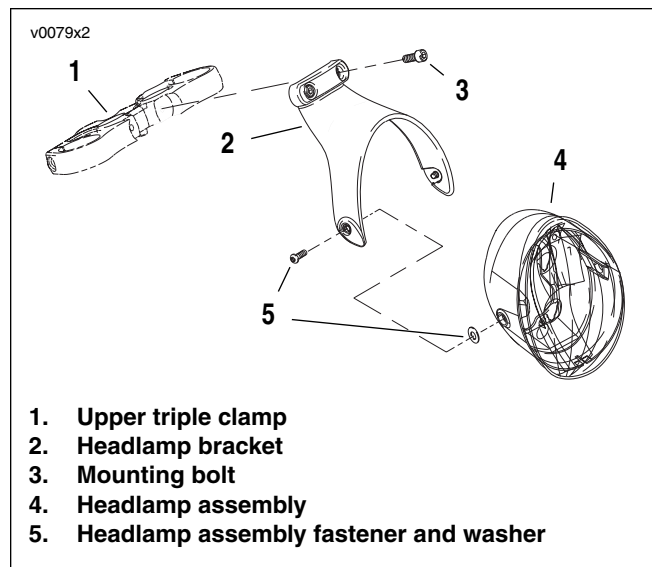

Figure 2-67. Headlamp Bracket and Headlamp Assembly
10. See Figure 2-67. To free lower end of top handlebar cover, loosen mounting bolts (3) holding headlamp bracket (2) to upper triple clamp (1).
4. Orient instrument bezel and fit bezel hook over tab on lower handlebar cover. Gently tilt bezel (1) and top handlebar cover (2) until bezel hook snaps onto tab.
5. Fit top cover (2) under headlamp bracket. Bezel edge should fit snugly to grooved rim of lower and upper cover.
6. Install fasteners (7) that hold top handlebar cover (2), instrument bezel (1), and capture instrument cluster (9). Tighten fasteners to 1.3-1.9 Nm (12-16 in-lbs).
7. See Figure 2-67. Tighten headlamp bracket (2) fasteners (3) to 11-18 Nm (9-13 ft-lbs).